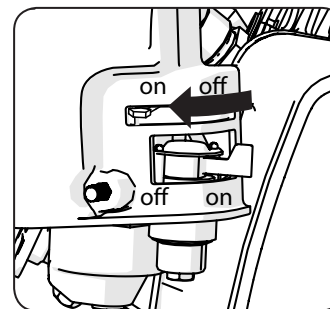

Fig 12
- Set the choke lever to the 'Choke On' position. (Fig. 12)